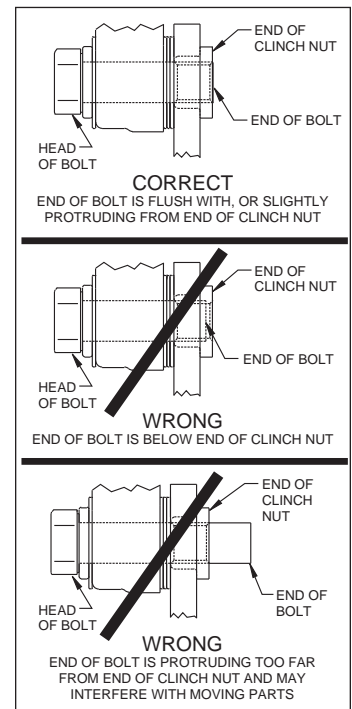

Figure 4. Clinch Nut Engagement Diagram
Assembly Instructions (numbers in parenthesis refer to the parts list, and Figure 2): **CAUTION:** All mounting bolts must fully engage clinch nuts. Be sure to check that all bolts are either flush or protruding through flanged side of clinch nut after shimming, Figure 4.
- Pack the small outer bearing cone (11) with high temperature disc brake bearing grease and install into hub (4). Slide the hub/rotor assembly onto the spindle. Secure using spindle washer (12) and OEM spindle nut, Photo 6. Adjust bearings per OEM specifications. Install saved OEM nut lock (if any) and a new cotter pin (not included).
- Screw dust cap (14) into hub (4), Photo 7. Friction created by the o-ring (13) on the dust cap keeps it from unscrewing. **NOTE:** The O.D. of the existing OEM spindle washer may be larger than the I.D. of the dust cap not allowing it to seat against the hub face. Therefore, use the spindle washer (12) supplied with the kit instead of the OEM washer.
- NOTE:** Please reference the caution statement at the beginning of the assembly instructions. This kit contains distinct right and left hand calipers that must be mounted in a specific direction, as described below. Mount the caliper (15) onto the caliper mounting bracket (1) using bolts (17) and washers (16), as shown in Figure 2. Initially place two .035" thick shims (18) on each bolt between the caliper and the bracket, Photo 8. Ensure that the caliper is mounted so the largest pistons are at the rotor exit end of the caliper, in relation to the direction of rotor rotation. Temporarily tighten the mounting bolts and view the rotor (8) through the top opening of the caliper. The rotor should be centered in the caliper, Photo 9. If not, adjust by adding or subtracting shims between the bracket and the caliper. Always use the same amount of shims on each of the two mounting bolts. **NOTE:** The end of each bolt must be flush with or slightly protruding from the head of the clinch nut, as shown in Figure 4. If necessary place spare shims between washer (16) and caliper mounting ear to achieve the proper clinch nut engagement. Once the caliper alignment and clinch nut engagement are correct, remove the bolts one at a time, apply red *Loctite*® 271 to bolt threads, and torque to 40 ft-lb.